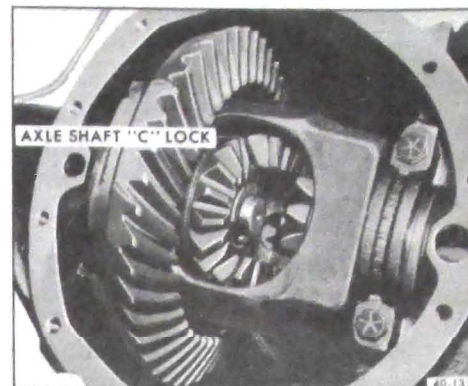

Figure 40-180 - Axle Shaft "C" Locks
5. Push axle shaft(s) inward to permit removal of "C" locks then remove axle shaft(s). See Figure 40-180.